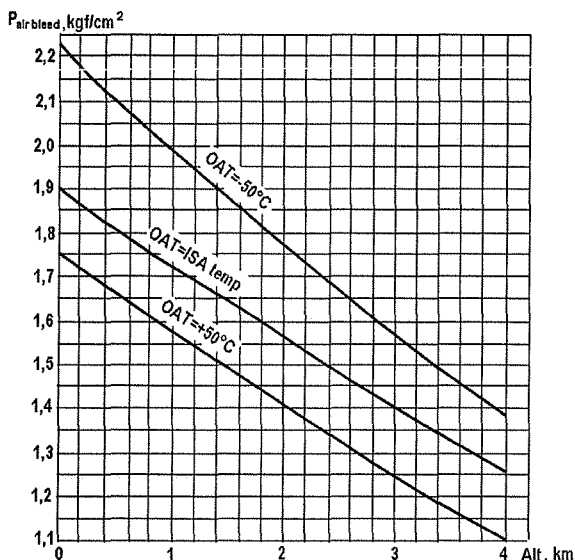

Fig.3.2 APU Air Bleed Line Pressure (Loads OFF) versus Ambient Temperature (OAT) and Airfield Altitude above Sea Level
- (1) Before starting the helicopter engines start the АИ-9В АPU for which purpose proceed as follows:
- (2) The following events are allowed in the course of APU start:
- (3) After the APU gains the idling speed check its operational parameters and make sure:
- (c) The air pressure in the air bleed line used for starting the engines is in accordance with the graph in Fig. 3.2.
- (4) The Flight Engineer should report completion of the APU start to the Captain, and after warming up of the APU for not less than 1 min the Flight Engineer should report readiness for starting the TB3-117BM engines.